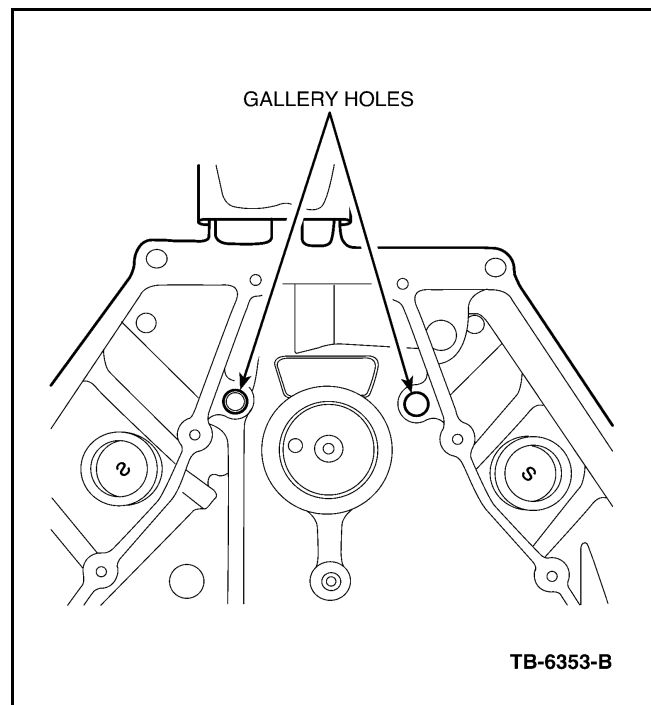

Figure 1 - Article 03-21-43
Relative to the cam, at 10 o'clock and 2 o'clock, there are two (2) holes that should have a Oil Gallery Cup Plug (40064-R1) installed. If the plug is missing, replace the cup using the following repair procedure (Figure 1).